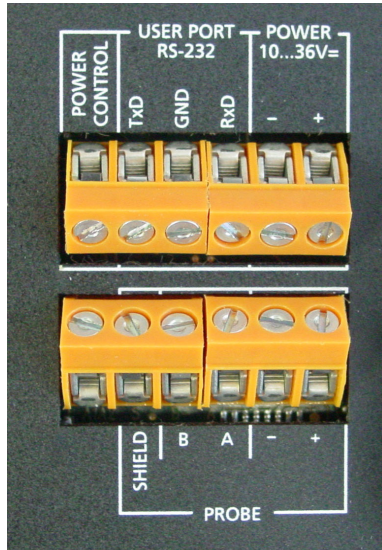

Figure 1 Signal and Power Supply Screw Terminals
3. Connect the RS-232 user port cables to terminals Tx D, GND and Rx D on the screw terminal block. See Figure 1 on the left.